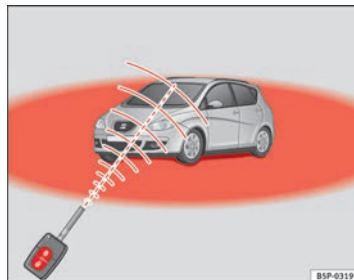

Fig. 65 Range of the radio frequency remote control
- The radio frequency remote control functions only when you are in range ⇒ Fig. 65 (red area).